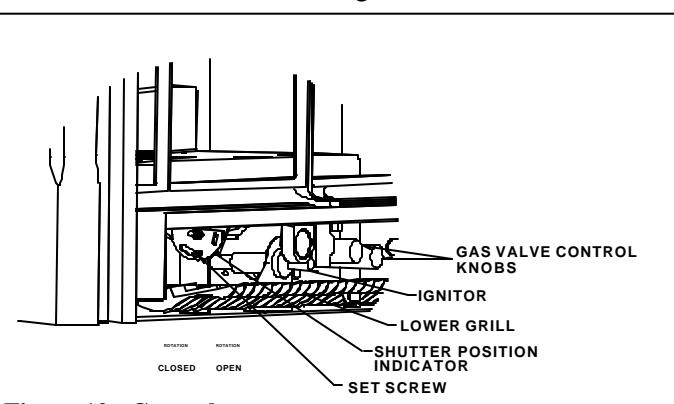

Figure 12: Controls
**Only qualified personnel should adjust the air shutter.** The air shutter is used to regulate the air-to-gas combustion mixture which influences the size and color of the flames. The air shutters have been positioned in the general location needed for the type of gas being used. If the stove is being converted for use with a different fuel the air shutters will need repositioning. If the unit is not burning as well as it should, then the air shutters may need adjusting. To adjust the air shutters, open the valve control door and locate the shutter position indicator, as shown in *Figure 12*. Loosen the position indicator set screw. The rod should be free to move. The open position (LP) is a counterclockwise rotation, and the closed position (NG) is a clockwise rotation. Carefully adjust the position of the shutter indicator to the desired location. Then tighten the set screw. Very little movement is needed to substantially change the burn and flame pattern.